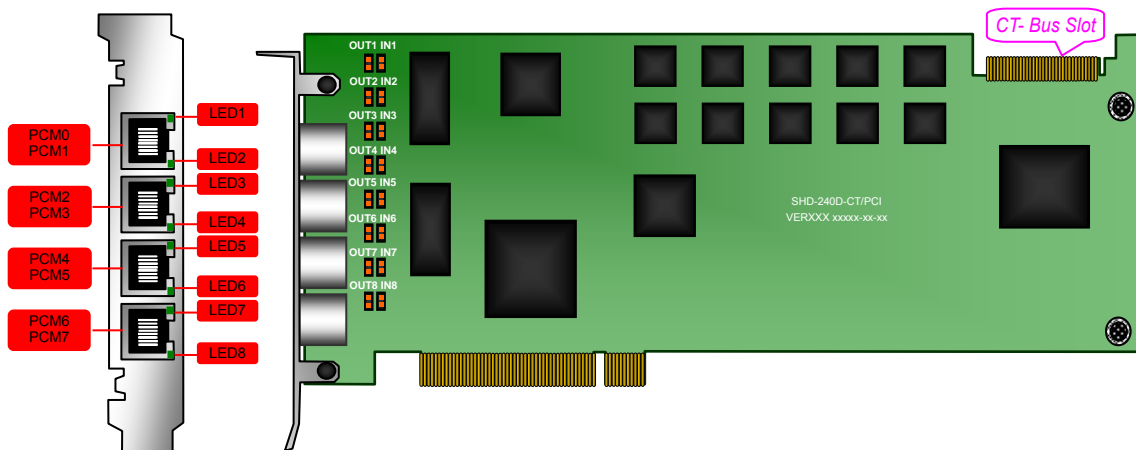

Figure 2-2 Left and Front Views
1. In Figure 2-2, PCM0~PCM7 respectively indicate the 8 trunk interfaces;